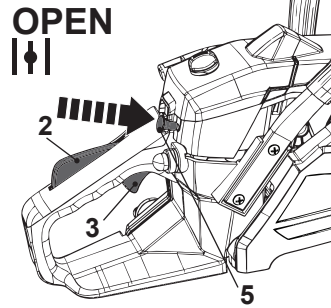

Fig. 21b
2. By pressing in the choke lever (5) (Fig. 21b), the choke is now at OPEN position while the throttle is kept at fast tickover.
3. To cancel fast tickover, press and release the throttle interlock (2) and throttle trigger (3).